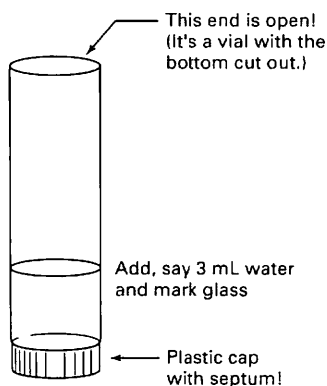

Fig. 37 Calibrating the gas collection reservoir.
1. Put a cap on your **gas collection reservoir**. You can calibrate the tube by adding 2, 3, or 4 ml of water and marking the tube. Some have calibration lines. Check it out (Fig. 37).